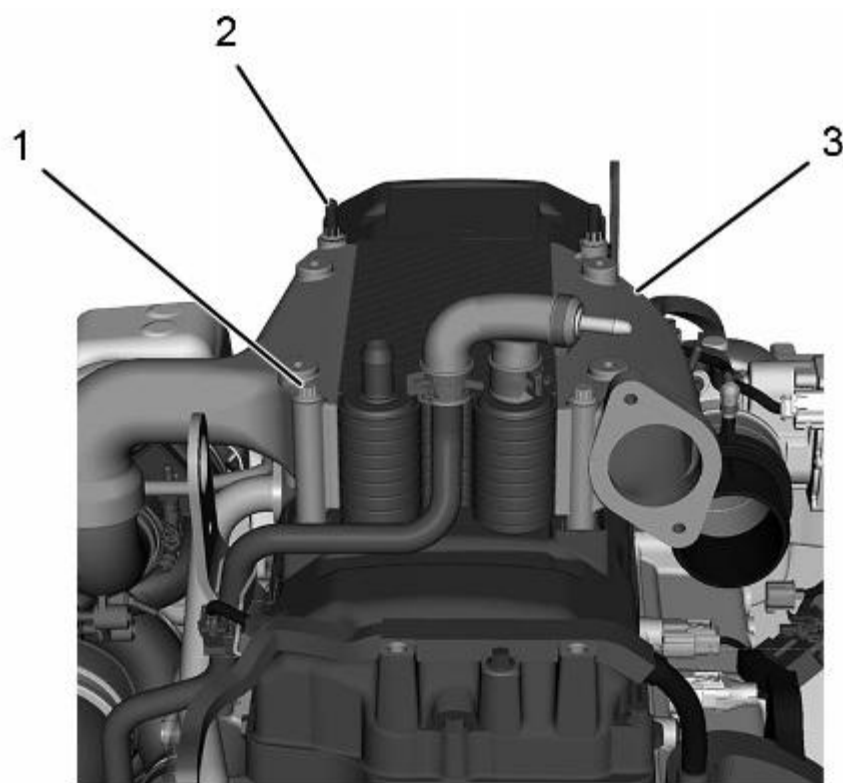

**Figure 19. Interstage Cooler (ISC).**
- 1. M8 x 110 bolt (2)**
- 2. M8 x 110 stud bolt (2)**
**19. Install ISC (Figure 19, Item 3) onto turbocharger inlet elbow and valve cover with two bolts (Figure 19, Item 1) and two stud bolts (Figure 19, Item 2).**